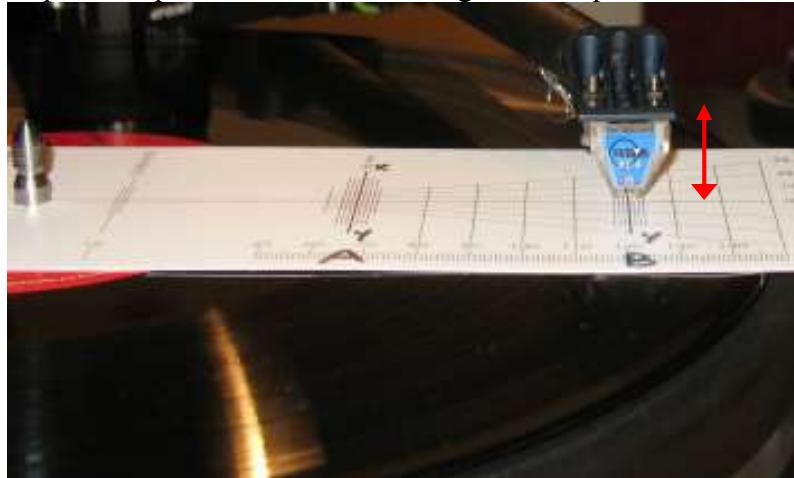

Fig. 15 Alignment at B
8. If the cantilever is not in alignment then rotate protractor until it is in alignment somewhere along the line "x-y" though stylus will probably not be at zero point B. Raise the cueing device a bit for better viewing. (Fig.15)